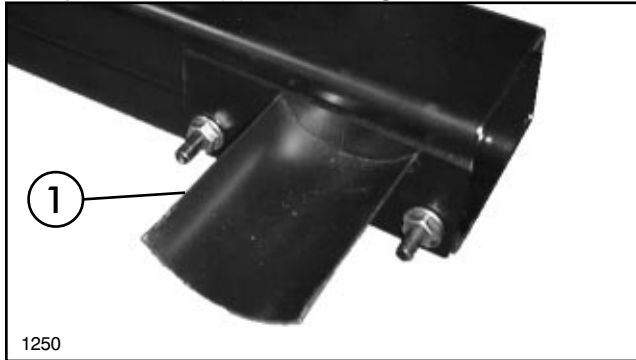

FIG. 4
1. Secure the Strainer Bracket to the front R.H. side of Engine / Pump Base using studs on Engine / Pump Base and (2) 5/16" flange nuts. See FIG. 4.